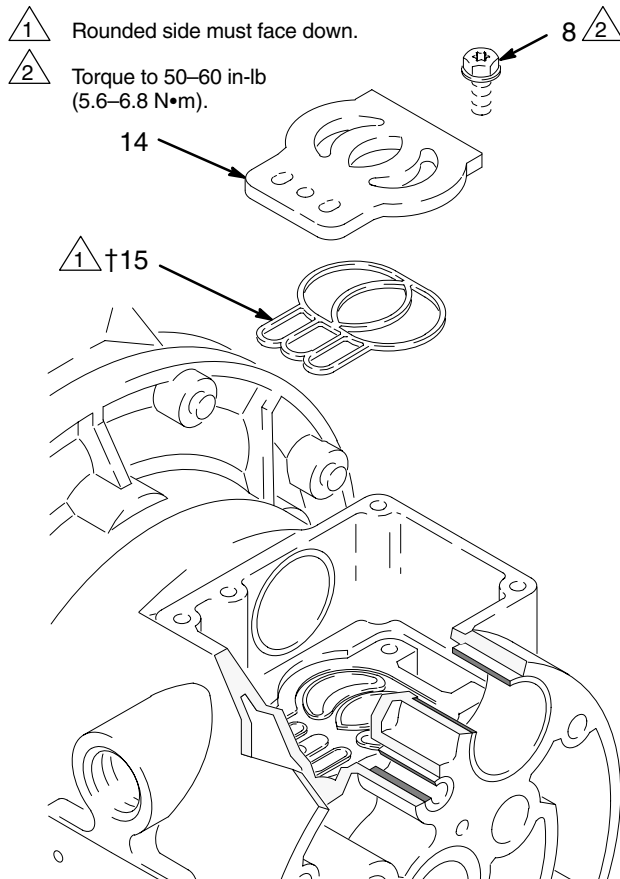

Fig. 11
5. Inspect the valve plate (14) in place. If damaged, use a Torx (T20) screwdriver or 7 mm (9/32") socket wrench to remove the three screws (8). Remove the valve plate (14) and seal (15). See Fig. 11.
2. Install the valve plate seal (15†) into the groove at the bottom of the valve cavity. The rounded side of the seal **must face down** into the groove. See Fig. 11.
3. Install the valve plate (14) in the cavity. The plate is reversible, so either side can face up. Install the three screws (8), using a Torx (T20) screwdriver or 7 mm (9/32") socket wrench. Torque to 50–60 in-lb (5.6–6.8 N•m). See Fig. 11.